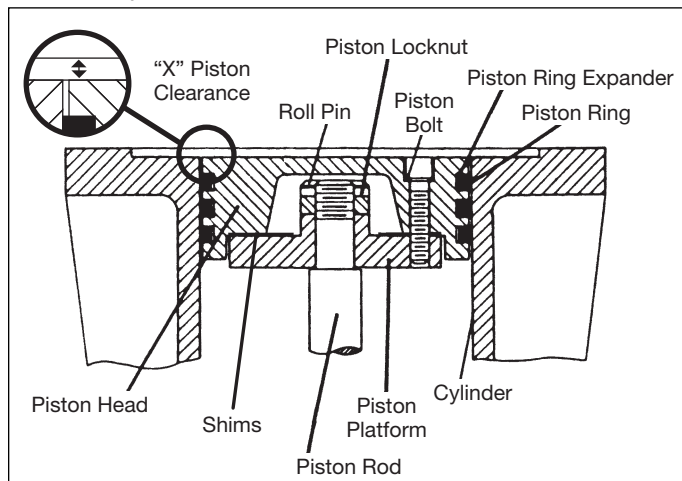

Figure 4.4: 1st and 2nd stage piston.
- Remove lock pin with needle nose pliers. Remove the locknut and lift the piston platform off the end of the piston rod. See figure 4.4.
- Now measure dimension “X”, shown in figure 4.4. If this measurement does not fall within the tolerances shown in Appendix B, remove the piston head, adjust the shims as necessary and re-measure the “X” dimension. When the piston is properly shimmed, torque the locknut to the value listed in Appendix B.